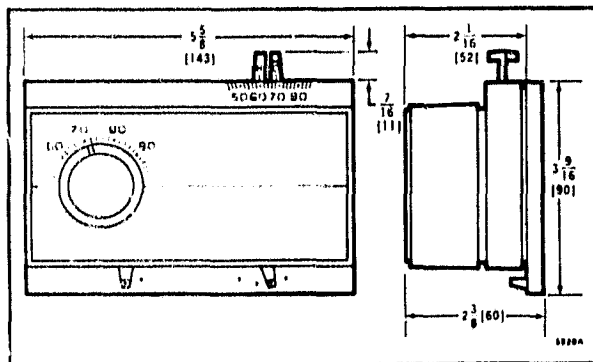

FIG. 1--DIMENSIONS OF T872 THERMOSTAT MOUNTED ON Q672 SUBBASE.
**DIMENSIONS** in inches [millimetres]: 3-9/16 [90] high; 5-5/8 [142] wide; 5/16 [8] deep (Fig. 1).